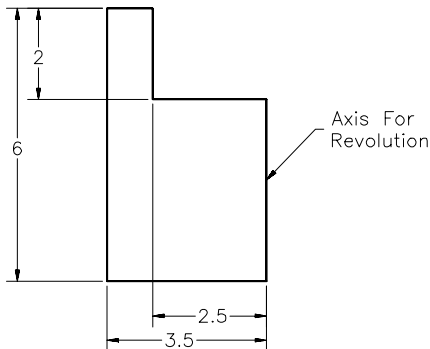

Figure 27-62 Sketch for the next feature
4. Rotate the UCS about the X axis through an angle of 90-degree. Draw the sketch for the next feature and convert it into a region, see Figure 27-62.